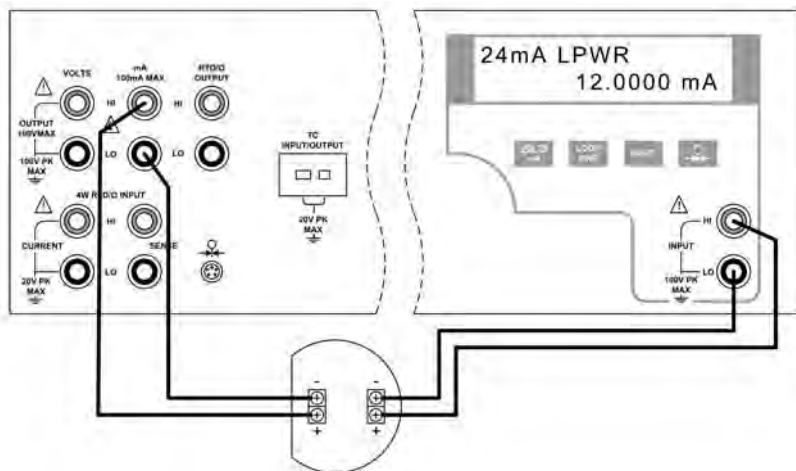

Figure 29 - I/I Isolator/Transmitter Application
4. Connect the transmitter as shown in figure 29.